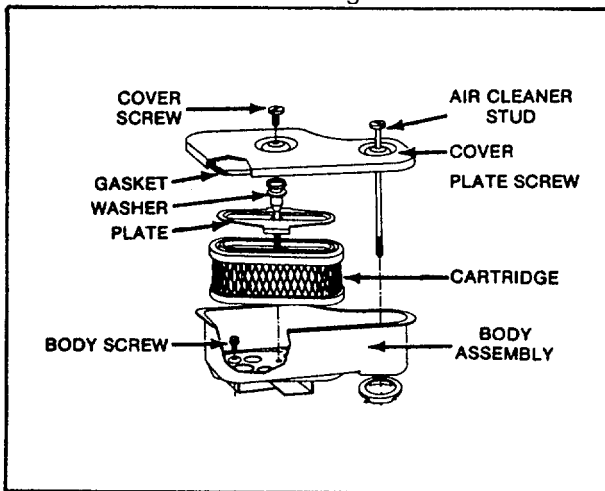

Fig. 6. - Cartridge Air Cleaner
5. Re-assemble air cleaner. Fig. 6.